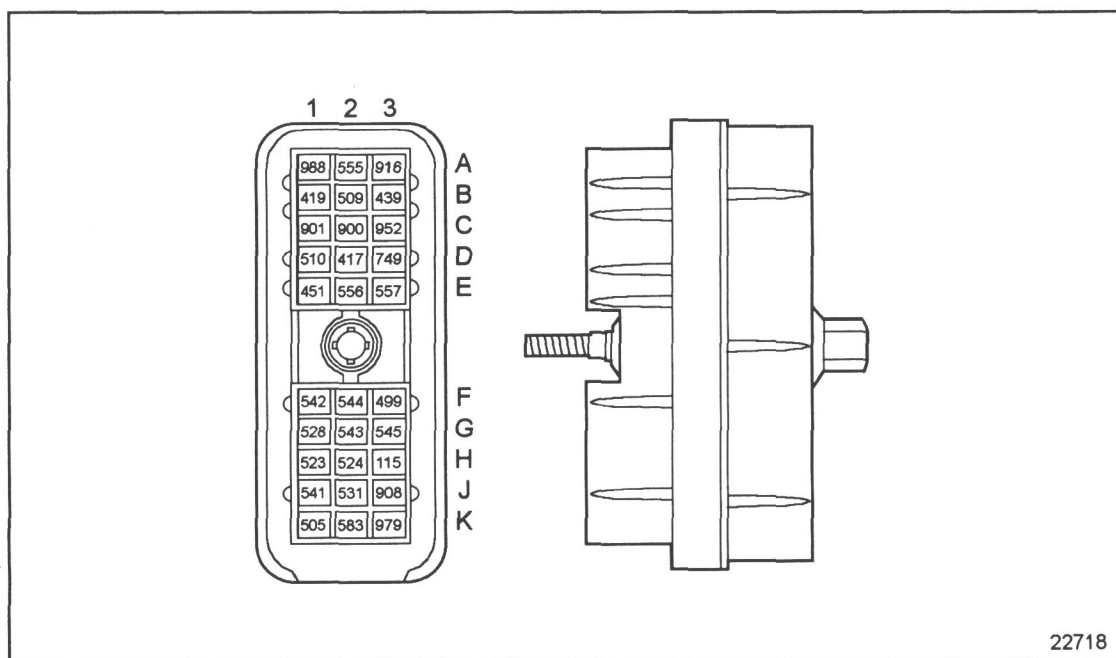

Figure 54-5 ECM Vehicle Interface Harness Connector
1. Check the terminals at the ECM engine harness connectors for bent, corroded, and unseated pins or sockets, on both the ECM and harness sides. See Figure 54-5.